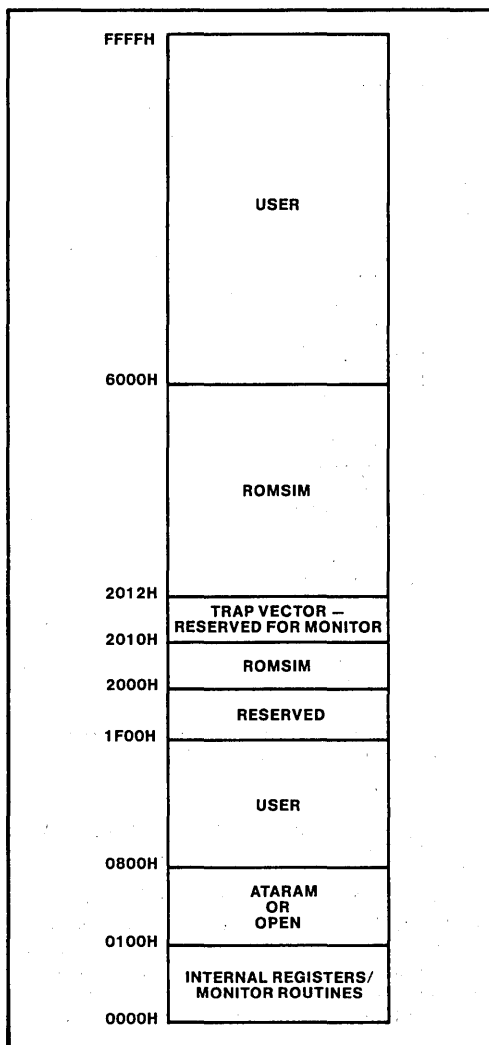

Figure 2. ISBE-96 Emulator Default Mapping
The target system should be designed with a memory map that is compatible with one of the ISBE-96 memory maps. Figure 2 shows the default address mapping. The following sections describe the areas of memory.
- User system memory should be configured to the iSBE-96 memory map (see Figure 2).